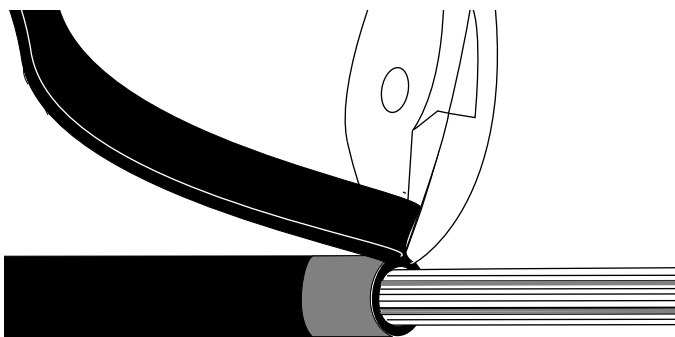

Figure 14
**5.22** Trim off the split section of inner sheath at the tape mark with side cutters (Figure 14) or scissors.